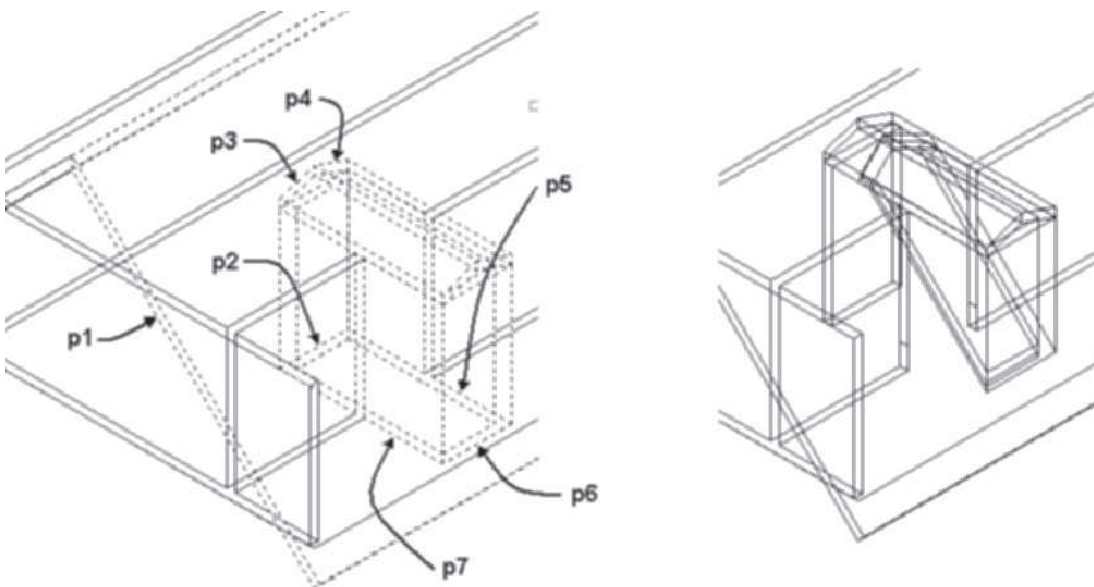

FIGURE 7.63 Selection of components to create dormer
13. Select the front roof slab near **p1** as shown in Figure 7.63. Choose **Add** from the **Dormer** panel. Respond to the workspace prompts as shown below:
Select objects that form the dormer: (Select p2 as shown at the left in Figure 7.63.) 1 found
Select objects that form the dormer: (Select p3 as shown at the left in Figure 7.63.) 1 found, 2 total
Select objects that form the dormer: (Select p4 as shown at the left in Figure 7.63.) 1 found, 3 total
Select objects that form the dormer: (Select p5 as shown at the left in Figure 7.63.) 1 found, 4 total
Select objects that form the dormer: (Select p6 as shown at the left in Figure 7.63.) 1 found, 5 total
Select objects that form the dormer: (Select p7 as shown at the left in Figure 7.63.) 1 found, 6 total